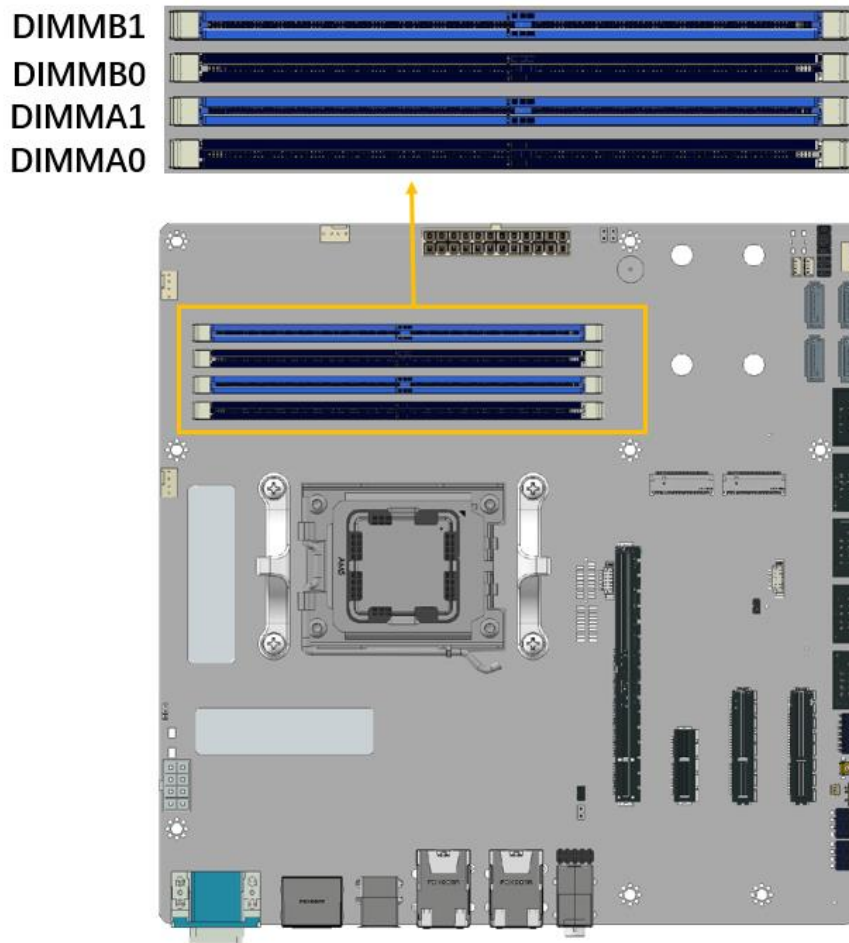

Figure 4-26: DDR5 DIMM Sockets Location
- CN Location:** See Figure 4-26